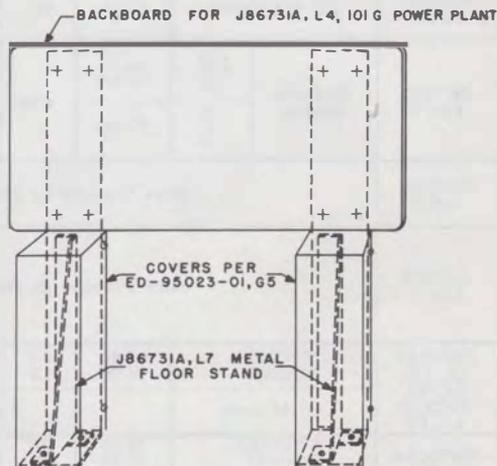

Fig. 5 — Floor Stand for J86731A, List 4, Power Plants
3.03 The J86731A, List 7 metal stand (see Fig. 5) consists of two metal legs and is used to floor-mount the J86731A, List 4 power plant, and where appearance is important, may be enclosed with the ED-95023-01, Group 5 cover.
| J86731A List 7 | Metal Stand for Floor Mounting J86731A, List 4 (See Fig. 5) | | | | | |